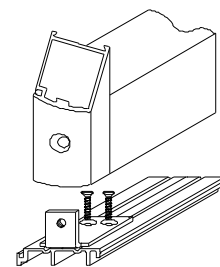

Figure 21
10. Install this clip into floor track in line with hole on bottom nose of fixed panel. Due to variances in floor heights, it will be necessary to shim clip to meet with hole in stile. Grooves in floor track will assist with any hole drilling (See Figure 21). Fixed Panel will be secured in place with these two brackets at cleanup.
10. Install floor brace into panel with the color coordinated 1/4-20 x 1/2 inch screw. Plumb panel and mark holes on floor. Drill holes with masonry bit, fasten the brace to the floor with plastic anchors and #10 x 1-1/2 inch screws (See Figure 21).